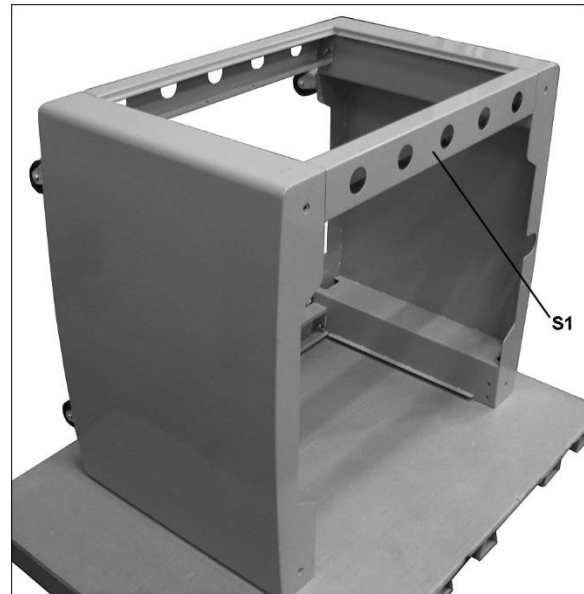

Figure 7-11
6. Flip assembly on its side, and install a third cross brace in similar manner (Figure 7-11). Tighten screws.